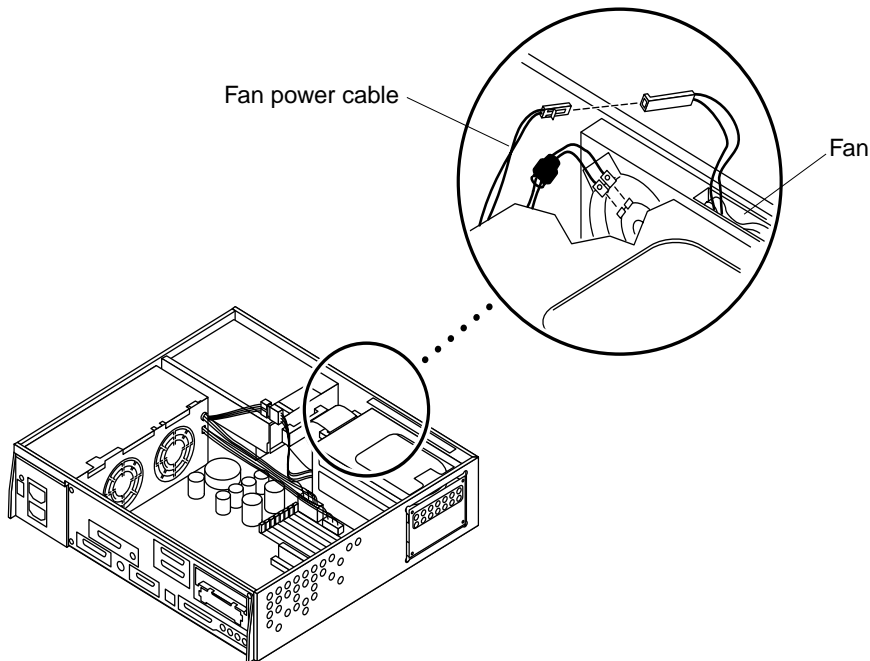

FIGURE 8-4 Fan Power Cable Connection
4. Disconnect the fan power cable from the fan (FIGURE 8-4).
- 3. Connect the fan connector to the fan power cable (FIGURE 8-4).**